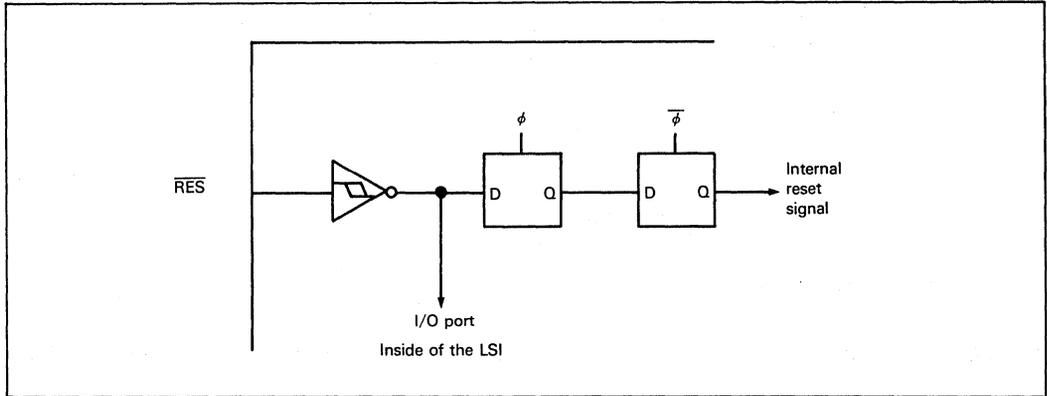

Figure III-18 Reset Circuit
**Answer:** The I/O ports are in the reset state immediately after a power-on reset because it is directly controlled by the  $\overline{\text{RES}}$  pin. However, at this time, the contents of the data register of each port are undefined (figure III-18).